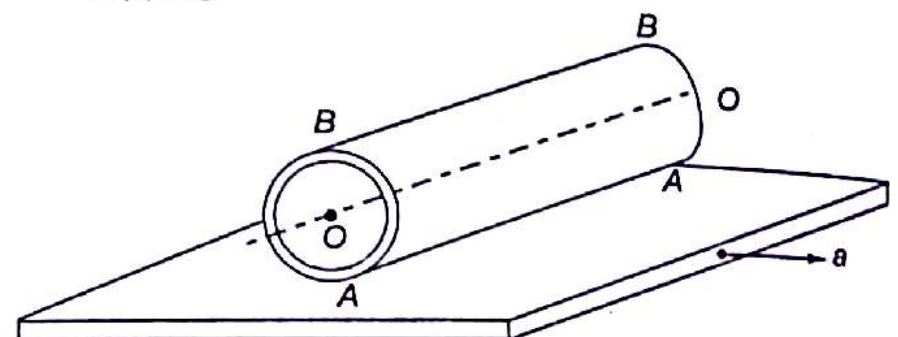

Fig. 17.13
- 17.5 A thin walled cylinder is on a horizontal platform as shown in the Fig. 17.13. The horizontal platform has acceleration of a m/s². Determine the acceleration of the centre of the cylinder assuming rolling without slipping.